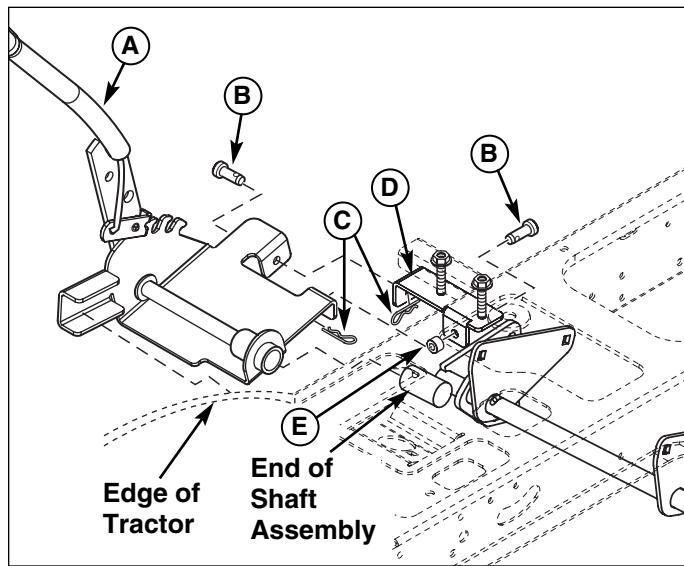

Figure 8. Install Lift lever Assembly
1. Slide the lift lever assembly (A, Figure 8) on to the end of the shaft assembly and on to the edge of the tractor.
2. Secure to mounting bracket (D, Figure 8) using clevis pins (B), spacer (E), and hair pins (C).